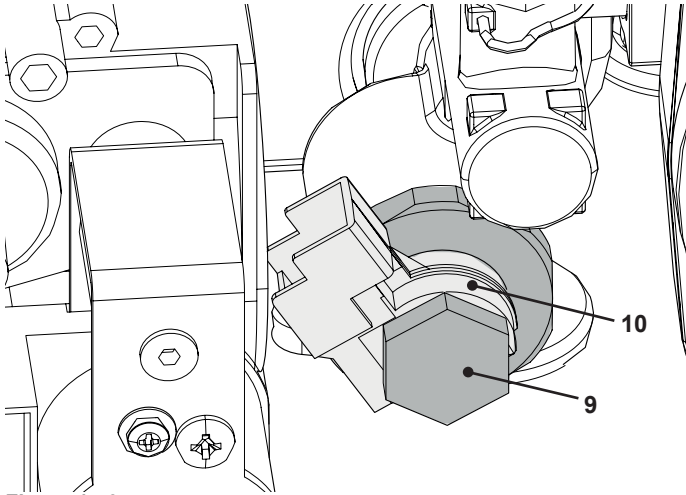

Figure 14.6
- 3 Remove the sensor holder "10" and unscrew the flow switch plug "9" (Figure 14.6).